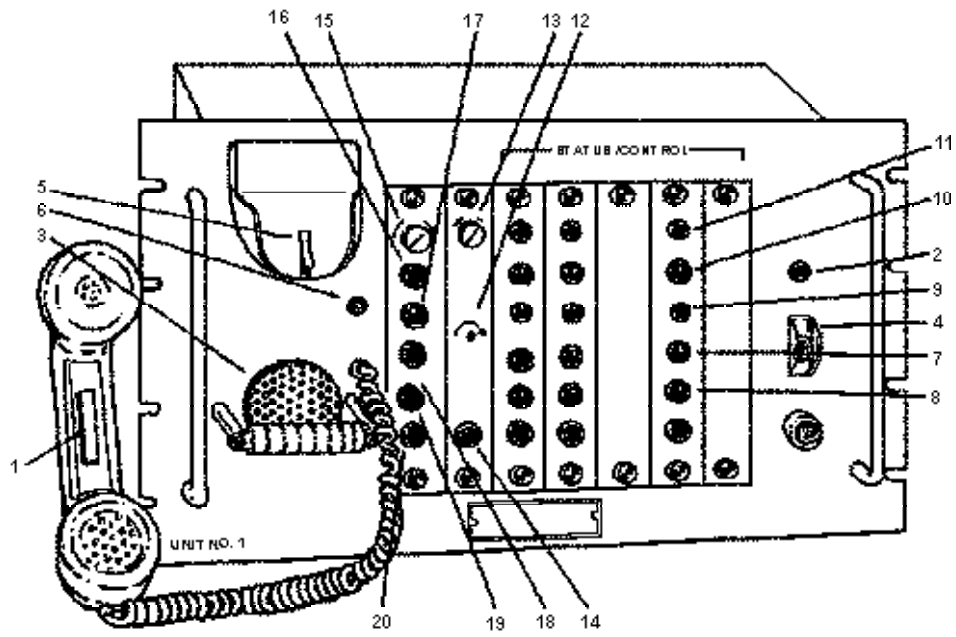

FIG 1-1
The Solid State Instrument Landing System (SSILS) and its associated monitoring equipment is part of the USAF air traffic control system. The GRN-29 remote control/display unit (RC/DU) (Fig 1-1) is used by air traffic control personnel to monitor and determine the operating status of the AN/GRN-29 (V) SSILS. The RC/DU provides the status of the primary functional groups of the localizer, glideslope and up to three marker beacon stations. It also provides voice communication and localizer identification with the various components of the SSILS via a telephone handset. To initiate a call, lift the handset from its cradle and press the intercom assembly switch corresponding to the equipment site to be called. To reset the intercom, put the handset back in the cradle. An incoming call is signaled by a tone over the speaker. To receive a call, lift the handset, press the push-to-talk switch to transmit; release the switch to receive.
Handset push-to-talk switch	Enables amplifier for intercom talk function. (1, Fig 1-1)
Power lamp	Power on lamp. (2, Fig 1-1)
Speaker	Aural alarm Speaker. (3, Fig 1-1)
Power (ON/OFF)	Power supply on/off switch. (4, Fig 1-1)
Handset on hook switch	Rearms call detecting circuits upon completion of call. (5, Fig 1-1)
Bulb test switch	Spring-loaded toggle switch, when pressed, lights all lamps. (6, Fig 1-1)
EXEC BYP lamp	Amber; lights to indicate equipment site action has bypassed remote control function. (7, Fig 1-1)
ABNL lamp	Amber; lights to indicate abnormal status, flashes to indicate loss of monitor tone output (monitor bypassed). (8, Fig 1-1)
OFF lamp	Red; lights to indicate equipment site transmitter is shut off. (9, Fig 1-1)
STBY lamp	Amber; lights to indicate standby transmitter group in operation. (10, Fig 1-1)
Main lamp	Green; lights to indicate main transmitter group in operation. (11, Fig 1-1)
Alarm volume control	Screwdriver adjustment controls volume of incoming status alarm and intercom ring signals. (12, Fig 1-1)
Dimmer control	Controls brightness of decoder/control assembly MAIN lamp. (13, Fig 1-1)
Alarm SILENCE switch	Silences alarm indication from loudspeaker. (14, Fig 1-1)
Phone Vol Control	Adjusts telephone handset volume level. (15, Fig 1-1)
Loc Switch	Localizes site intercom call switch. (16, Fig 1-1)
GS Switch	Glideslope site intercom call switch. (17, Fig 1-1)
Inner MKR Switch	Inner marker site intercom call switch. (18, Fig 1-1)
Middle MKR Switch	Middle marker site intercom call switch. (19, Fig 1-1)
Outer MKR Switch	Outer marker site intercom call switch. (20, Fig 1-1)